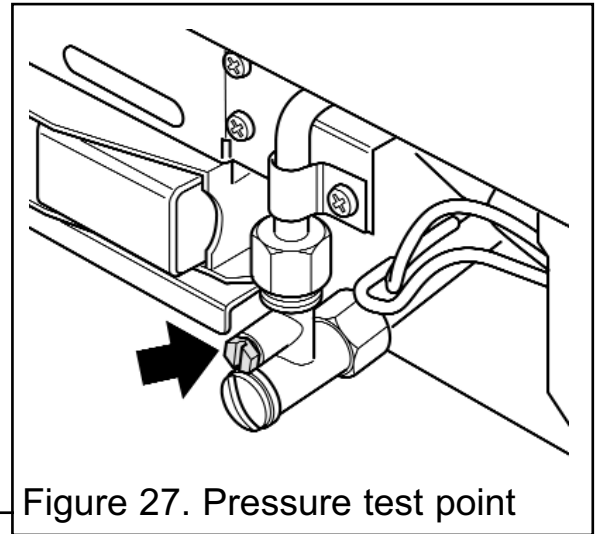

Figure 27. Pressure test point
1. Ensure that the appliance is OFF, then fit a pressure gauge at the test point (See figure 27).